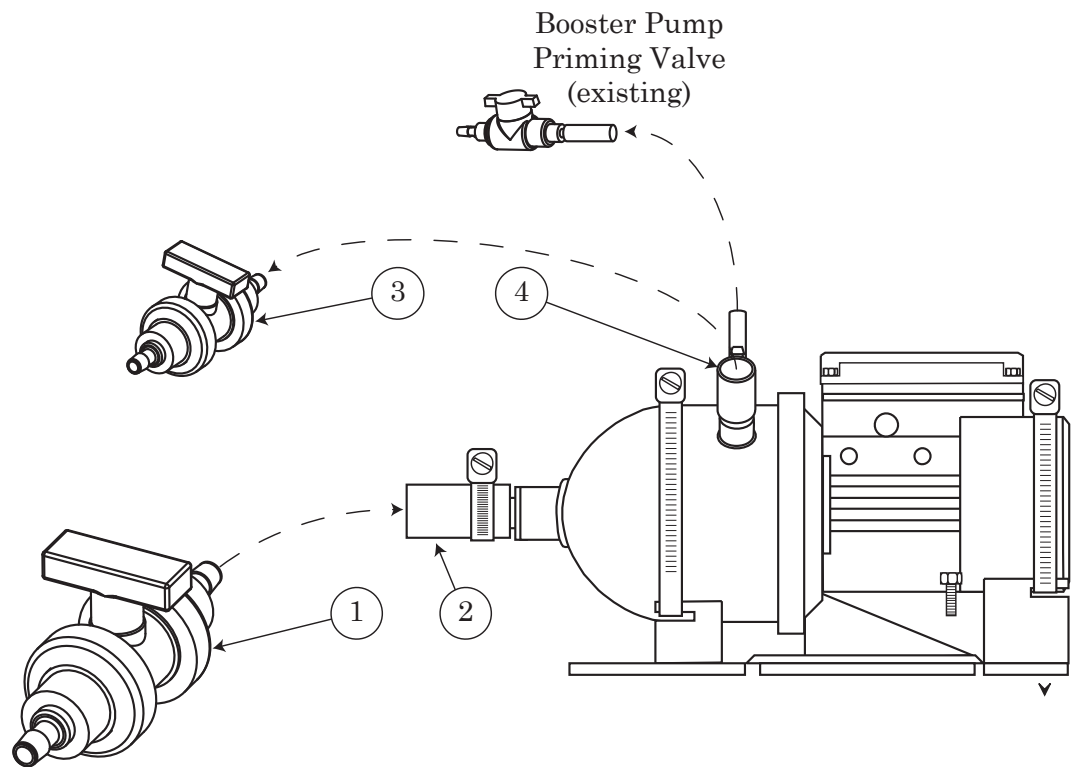

Figure 4. Booster Pump Isolation Valve Installation
(Figure 4 except as indicated)
- The 1" ball valve assembly (Figure 4, 1) P/N 7450-G504 in the upgrade kit is to be mounted in the 1" inline booster pump inlet hose (2). Cut the hose section so that the cut ends can be attached to the hose barbs on the valve, about 12 inches from the inlet flange.